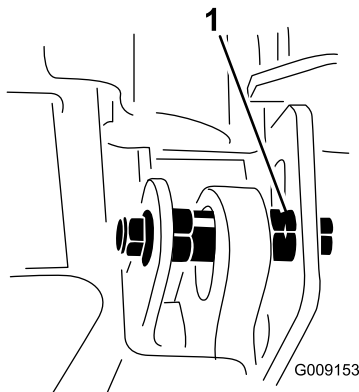

**Figure 7**
2. Loosen the bolts and nuts securing the 2 eccentric spacers to the winglets (Figure 7).
4. Rotate the rear (closest to the traction unit) eccentric until the outside blade tip is about 3 mm (1/8 inch) higher than the desired height of cut (Figure 7).